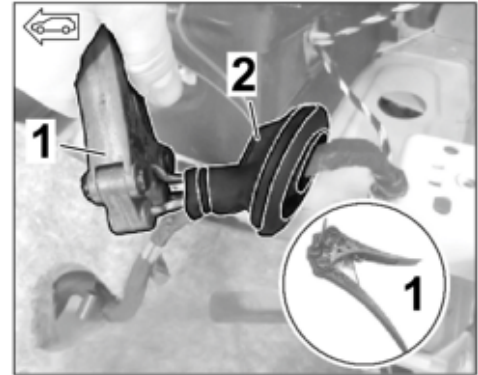

Figure 24
- 3.3.7 Guide the new branch for the exhaust flap (left / right) through the new grommet (left = \varnothing 66.5 mm / right = \varnothing 46 mm) using three mandrel pliers and an auxiliary line (Tekalan or Teflon tube). \Rightarrow Figure 24